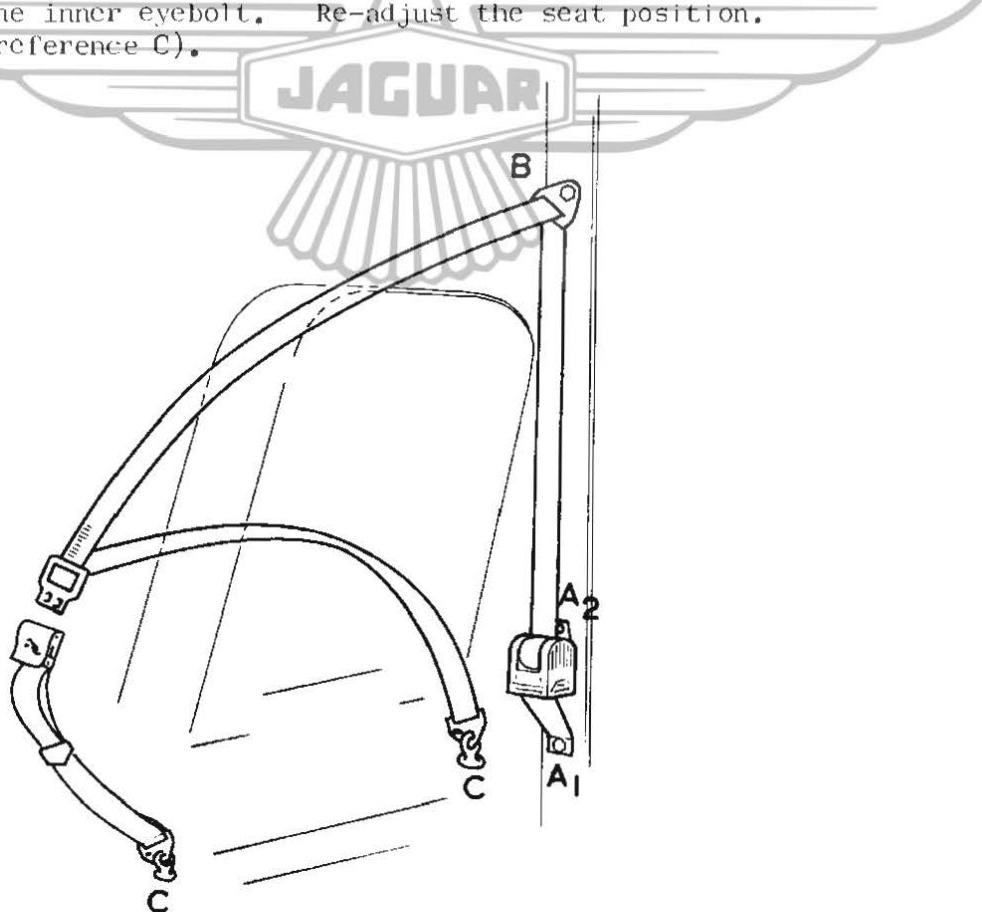

FIG. 1 THE SEAT BELT FITTED
- (10) Place the wavy washer on the small diameter of the mounting bush supplied in the kit and insert the bush into the hole in the strap top anchor plate from the back. Pass the large plated setscrew with plain washer through the plate and bush.
- (11) Fit the bush in the hole in the wood capping and fully tighten the setscrew into the tapped boss on the pillar.
- (12) Slide the seat forward and withdraw the two black plastic plugs from the floor between the seat runners. Insert the two eyebolts and tighten fully.
- (13) Attach the main belt to the outer eyebolt and the short (buckle) belt to the inner eyebolt. Re-adjust the seat position. (Fig. 1, reference C).